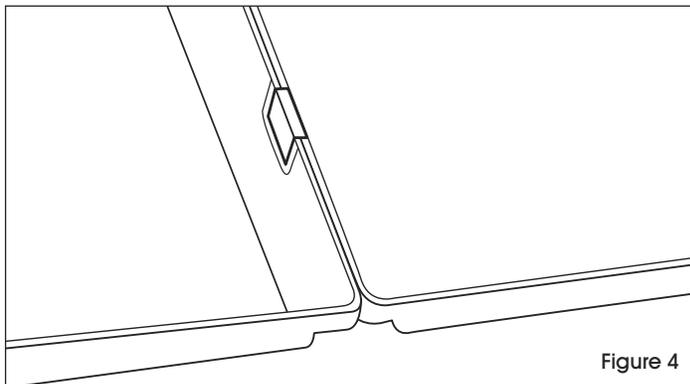

Figure 4
4. Ensure the connector is flush with the top edge of the workstations. (See Figure 4)